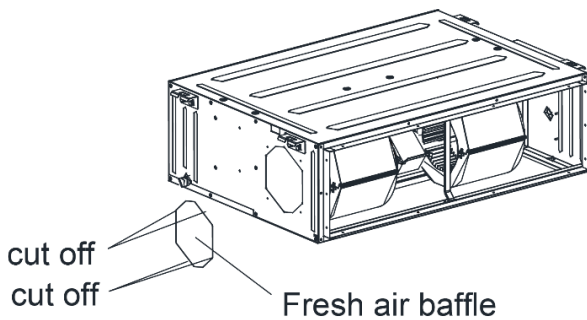

Fig 9.4.8
- (1) When the fresh air pipe is needed to be connected, cut the fresh air baffle as Fig 9.4.8 Plug up the gap of the fresh air baffle by sponge if the fresh air duct is not be used.